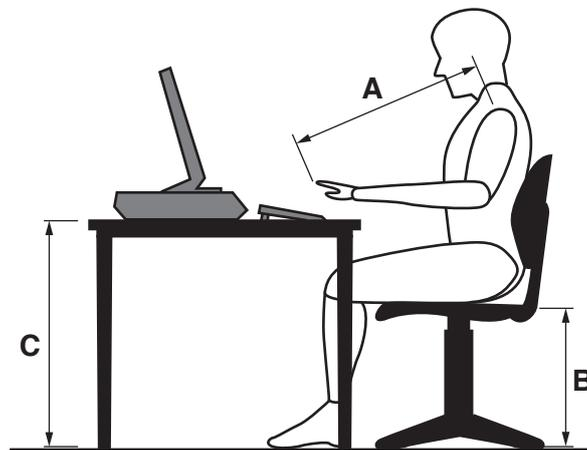

Fig. 8
- 10 Fig. 8 shows a person sitting at a desk, using a computer. Three areas, where consideration of ergonomics is required, are labelled **A**, **B** and **C**.